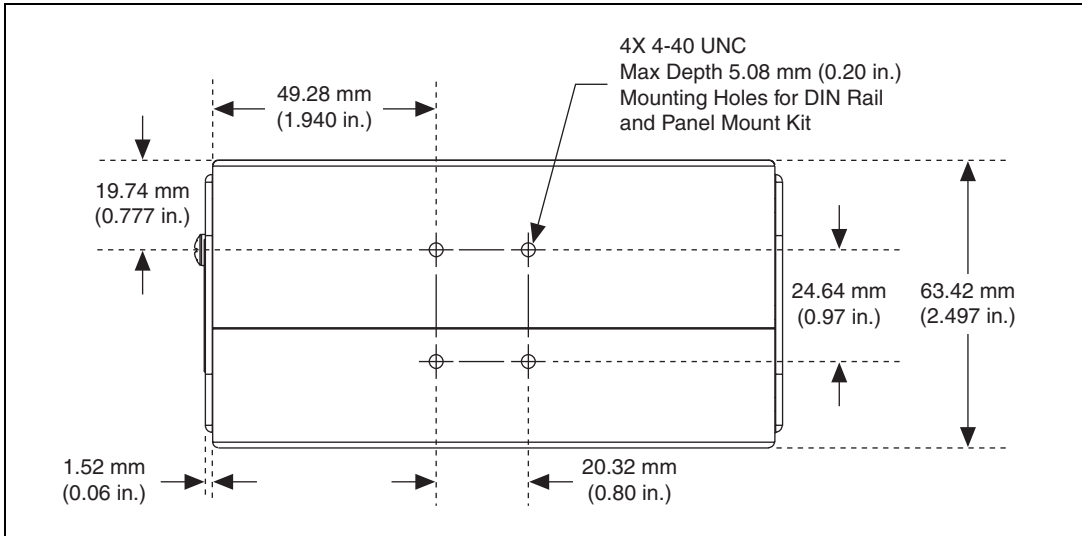

Figure B-1. Back View of the NI CVS-1450 Series with Dimensions
If you want to create a custom mount, Figures B-1 through B-4 provide dimensional drawings and clearance information for the NI CVS-1450 Series.
1. Align the screw holes of your mounting bracket with the four holes on the back of the NI CVS-1450 device. Figure B-1 shows the location of the mounting holes on the NI CVS-1450.